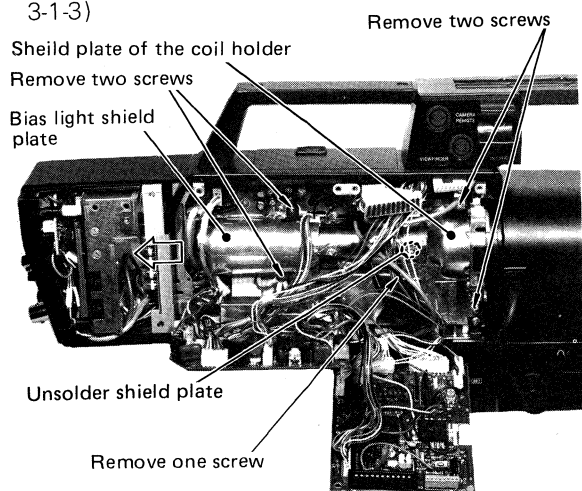

Fig. 3-1-3
- Remove three screws and unsolder one point holding the shield plate of the coil holder and shield plate of the preamplifier board holder and remove these shield plates. (Fig. 3-1-3)
- Remove two screws holding the shield plate and remove the shield plate by pulling it backward, while pulling the other side of shield plate forward. (Fig. 3-1-3)